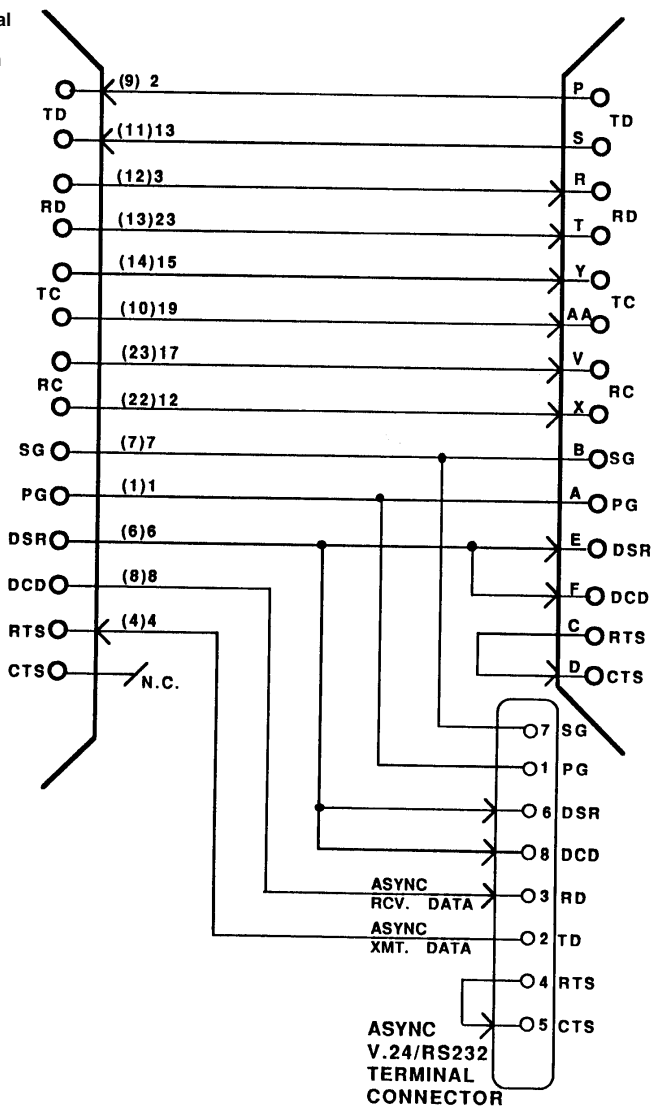

Figure A-3. V.35 With Secondary Channel Cable (EY-2364-C).
To enable an async secondary channel, you must use a special T-cable which connects both the primary and secondary channels to the Converter through the Converter's DTE connector. Refer to Figures A-3, A-7, and A-11 in the **Appendix**.
- A split (dual) cable should be purchased or prepared. Refer to Figures A-3, A-7, and A-11 in the **Appendix**.